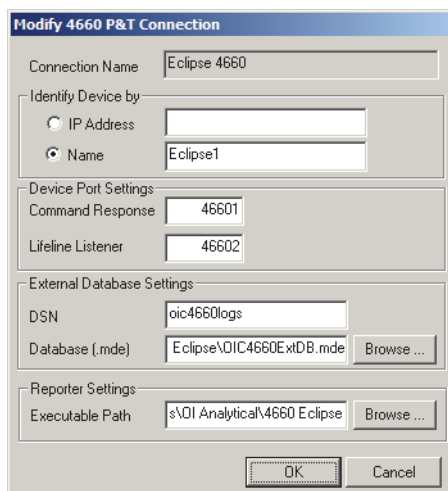

Figure 14.14. Modify 4660 P&T Connection dialog box for dynamic IP addresses
2. Click **Add** to add a new Eclipse or select an Eclipse icon and click **Modify**. The Modify 4660 P&T Connection dialog box appears (Figure 14.14).